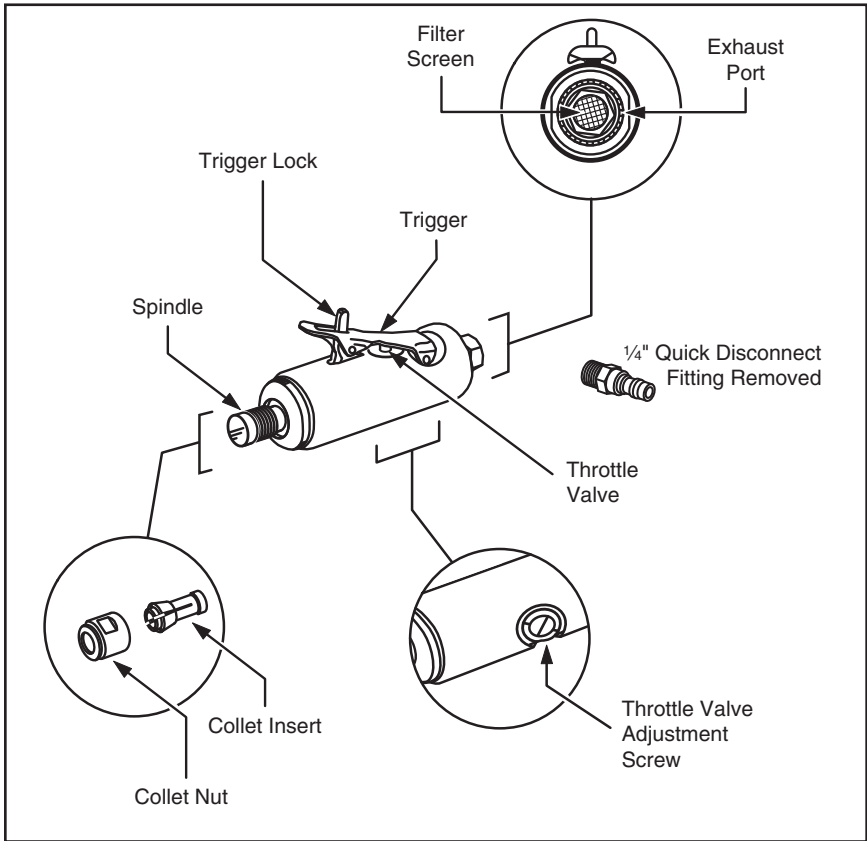

Figure 1. Components and controls.
3. Insert the shank of the desired grinding bit into the collet until it bottoms, and tighten the collet nut (see **Figure 1**) using the spindle and collet wrenches.
- If tool hop or vibration makes the grinder hard to control, adjust the throttle valve screw (see **Figure 1**) to reduce grinder RPM.